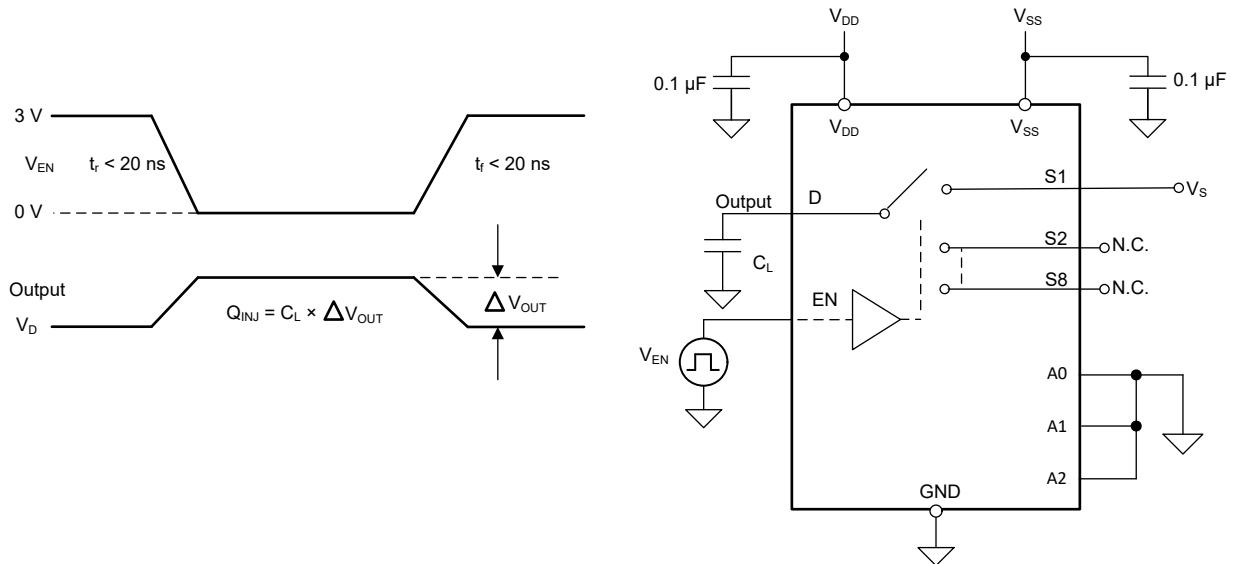

图 8-9. Charge-Injection Measurement Setup
The TMUX7208 and TMUX7209 have a transmission-gate topology. Any mismatch in capacitance between the NMOS and PMOS transistors results in a charge injected into the drain or source during the falling or rising edge of the gate signal. The amount of charge injected into the source or drain of the device is known as charge injection, and is denoted by the symbol Q_{INJ} . 图 8-9 shows the setup used to measure charge injection from source (Sx) to drain (D).